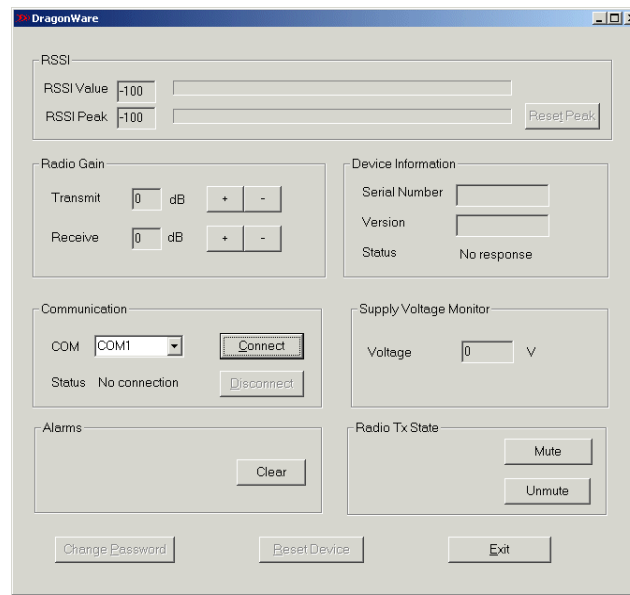

Figure 9-14: TS-RFU Management Software Window
1. The **RSSI** area of the TS-RFU Management Software window in Figure 9-14 includes fields and bars for numeric and graphic representations of signal strength.